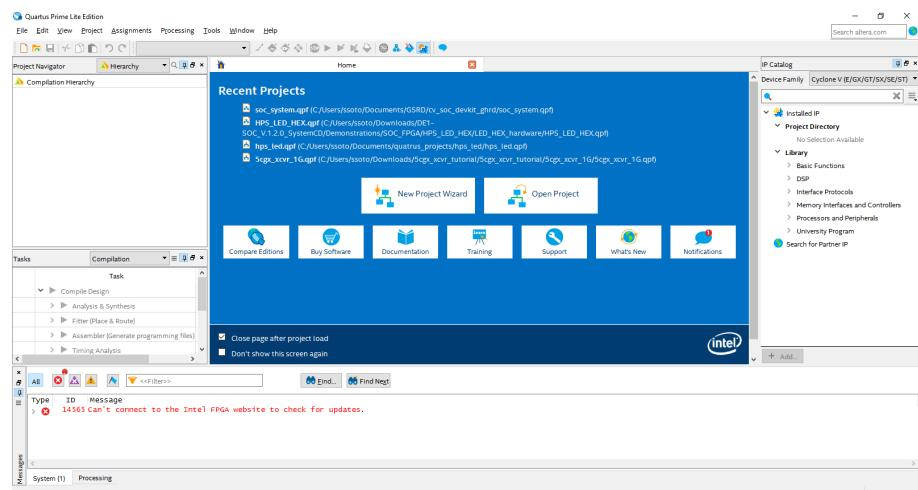

Figure 2: Quartus Prime main window
- Open the tools by double clicking the Quartus Prime icon:  . You should now see something similar to Figure 2.